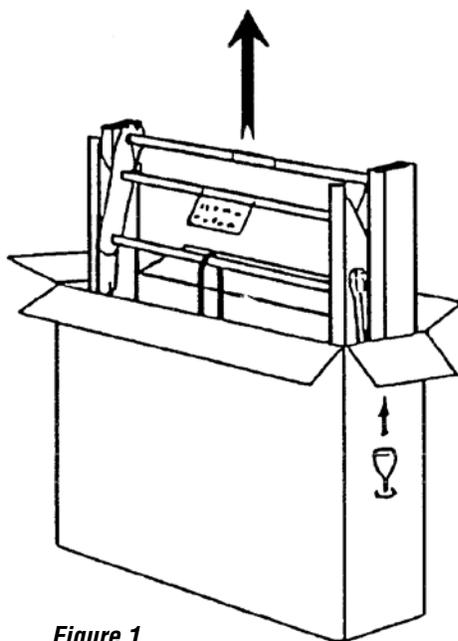

Figure 1
1 With the carton in the upright position, remove the table frame (A) and feet/hardware box as shown in **Figure 1**. Do not cut restraining cord yet and do not release brake lever yet.